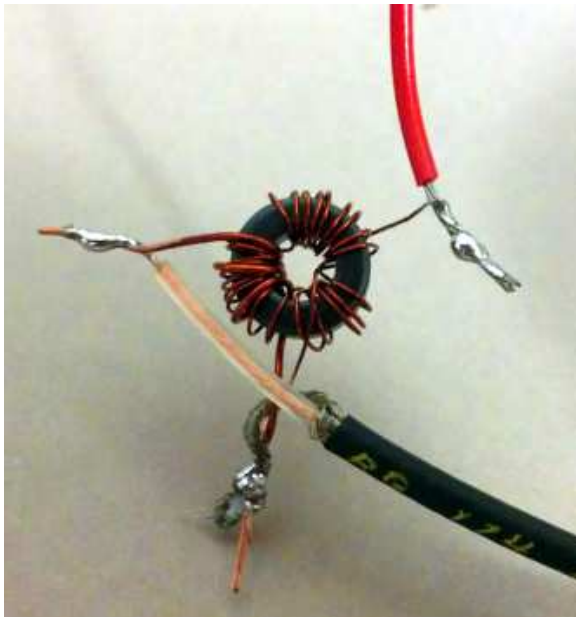

Figure 14: Soldering Toroid
1. Twist together and solder one end of the thin magnet wire, one end of the thick magnet wire, and the braid from the coax (Figure 14: Soldering Toroid).
Your antenna should look like Figure 14: Soldering Toroid.